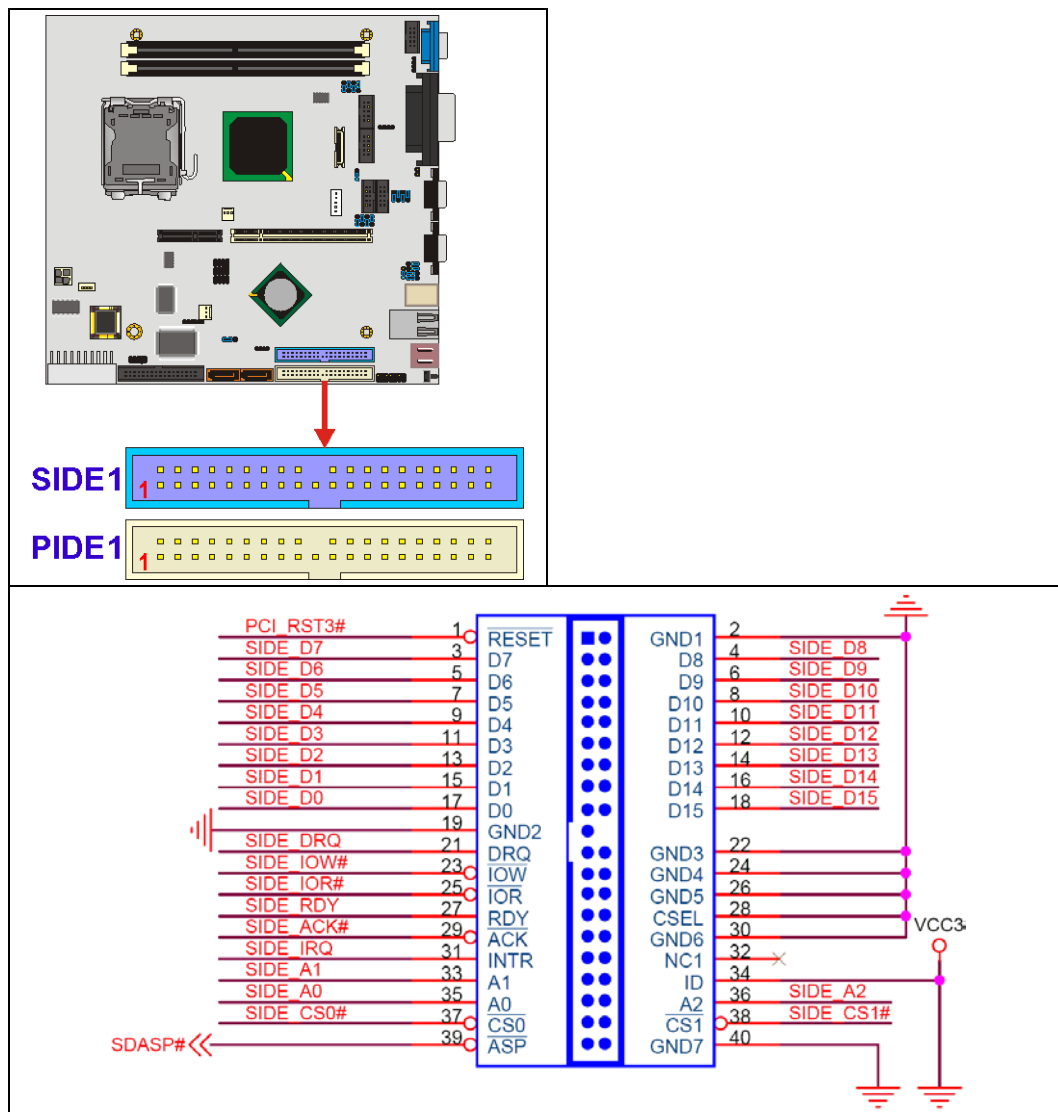

Figure 3-12: IDE Interface Connectors Locations
**CN Location:** See Figure 3-12